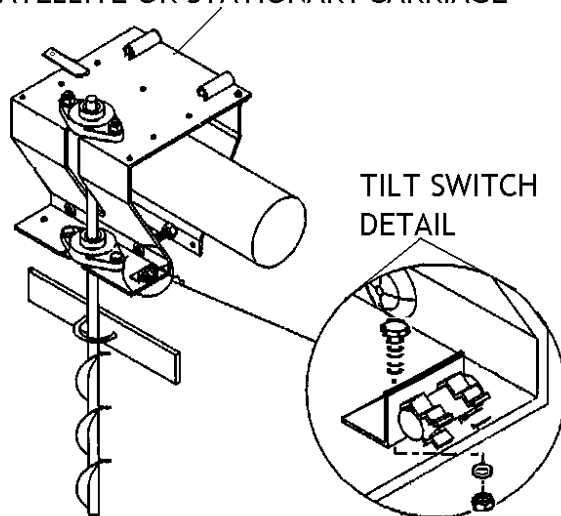

Figure 17-Tilt Switch Placement on Satellite and Stationary Carriages
- 24 On satellite and stationary outside carriages (if present), bolt tilt switches to bottom auger side of carriages near down auger slots (facing in). Use 5/16" x 1" bolt pointing down through plate and 5/16" lockwasher and nut. **Figure 17.**